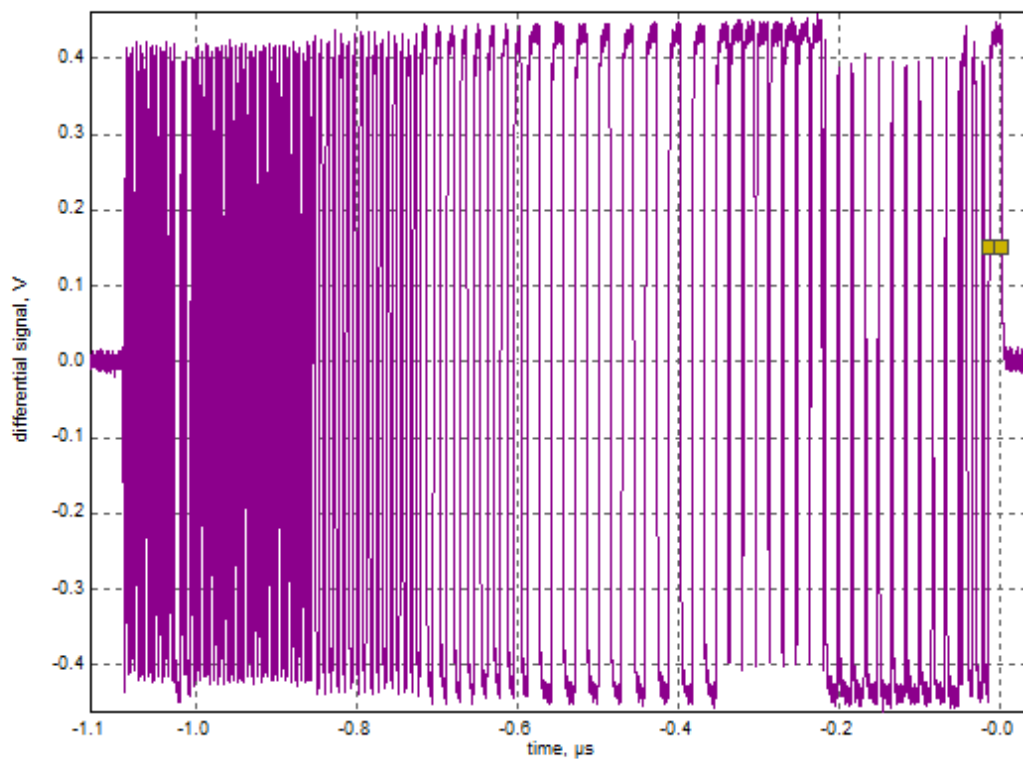

Figure 30. Device Hi-Speed Test packet
7. Switch the Test Switch (S1) to the **Test** position according to the requirement of the Automated Test Software. Verify the yellow test LED is lit. You should see the transmitted test packet on the oscilloscope as shown in Figure 30.